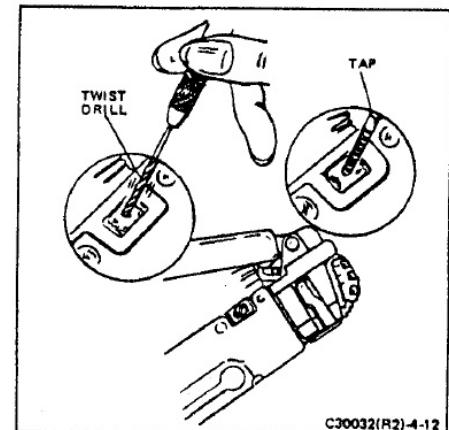

FIGURE 4-12 REPAIRING DAMAGED BOOT RETAINER TAB
- Use a No. 62 twist drill in a pin vise and drill a hole  $1/8$ " deep, dead center in the boot retaining tab (Figure 4-12). Hold the boot retainer tightly between thumb and forefinger.